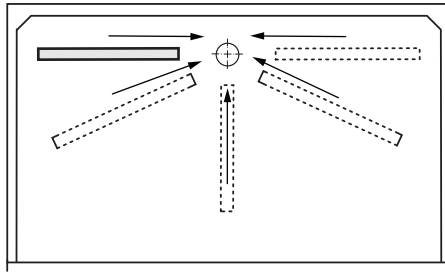

Figure 8
- 3** Place a level as shown in Figure 8 and verify that there is slope towards the drain.